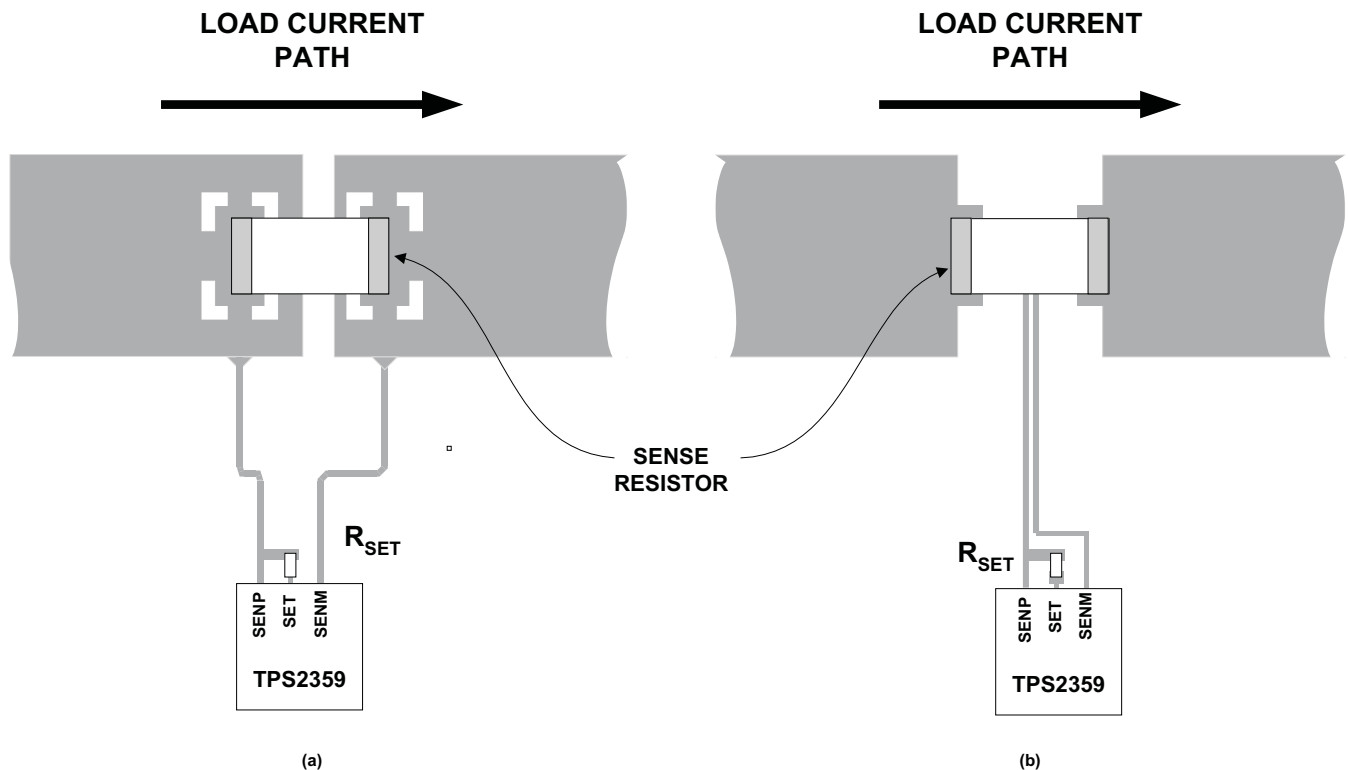

Figure 33. SENMx and SENPx Runs Side-by-Side to Maximize Common Mode Rejection
3. Minimize the loop area between the SENMx and SENPx leads by running them side-by-side. Use Kelvin connections at the points of contact with  $R_{\text{SENSE}}$  (Figure 33).